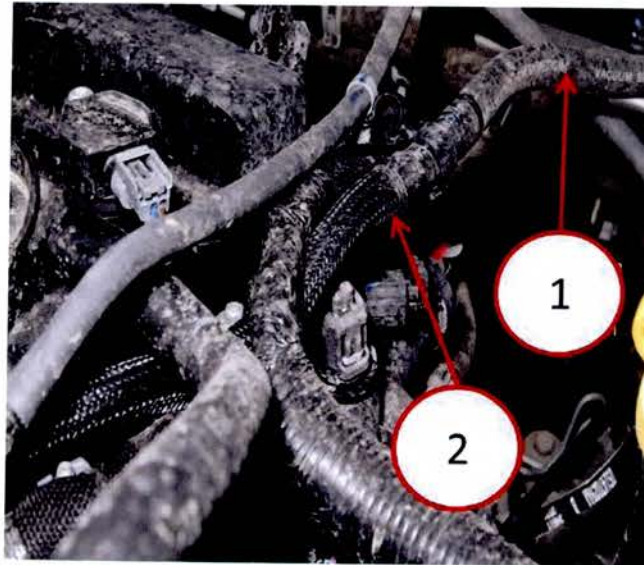
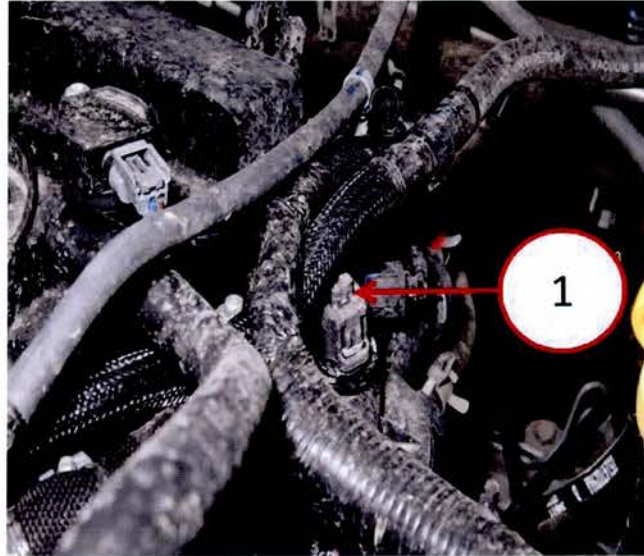

Fig. 1 Vacuum Hose Routing
Fig. 2 Temperature Sensor Location
2. Remove the brake booster vacuum hoses from brake booster to intake manifold being careful not damage temp sensor wire, lift wire harness prior to removing vacuum hoses to prevent damage (Fig. 1) and (Fig. 2).